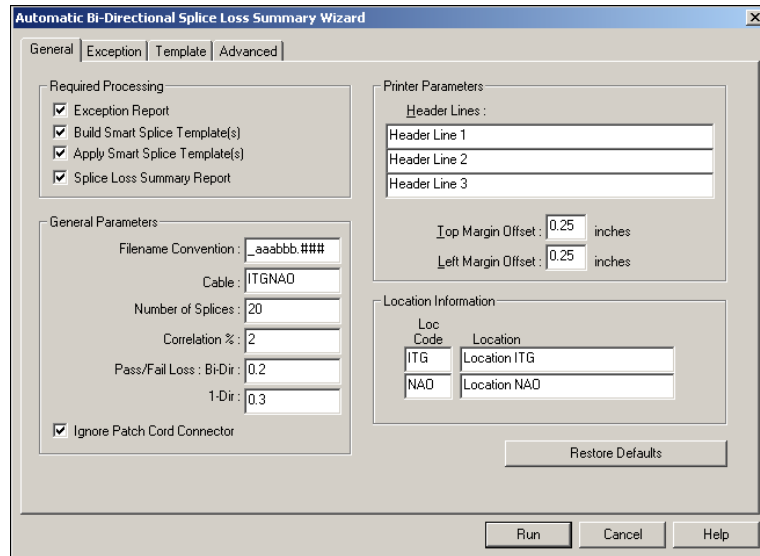
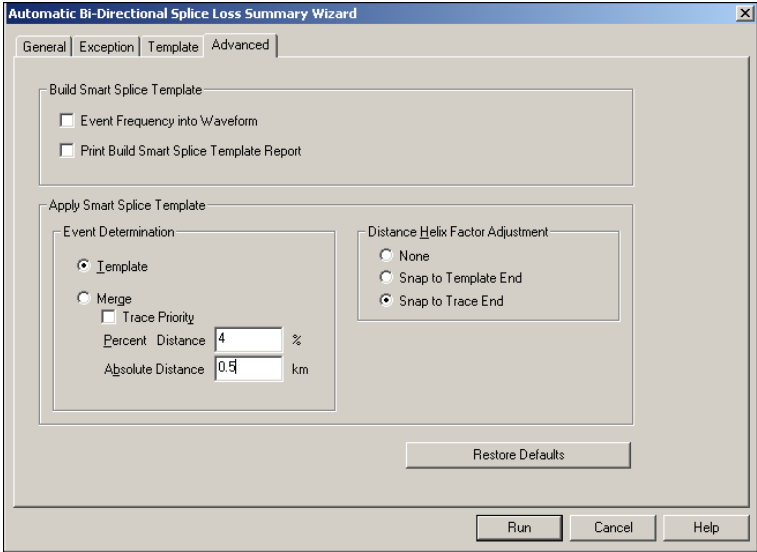

Figure 12-8: Wizard General Tab
Figure 12-11: Wizard Advanced Tab
5. Set up the Wizard controls as shown in Figure 12-8 through Figure 12-11.